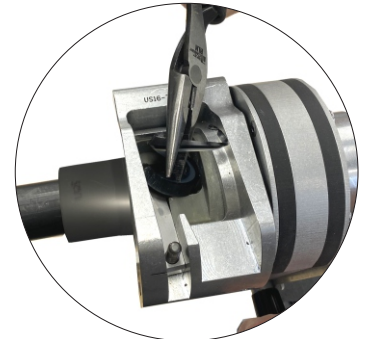

Fig. 4C
4. **Stripping over head cable.** On a few particular overhead conductors, the insulation chip may birdnest in the bushing window. If this becomes evident, grasp the end of the insulation chip with needlenose pliers and train it away from the bushing and blade. Stripping can then resume uninterrupted. (Fig. 4C)